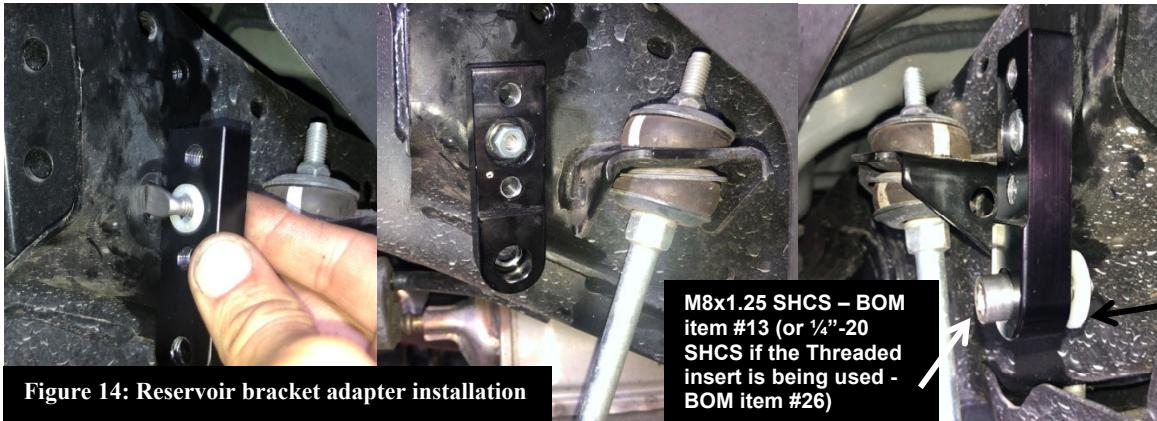

Figure 14: Reservoir bracket adapter installation
- R. Insert the Right Angle Stud into the hole as shown in Figure 14. With the Reservoir Bracket Adapter hanging upside down, slide the M8x1.25 SHCS through a Split Lock Washer (for M8x1.25 SHCS), and then into the remaining counter bored hole. Then slide the Nylon Washer over the exposed threads of the M8. Refer to Figure 14. If the threaded inserts were installed, discard the M8x1.25 SHCS (BOM item #13), Split Lock Washer (BOM item #14), and Nylon 8mm washer (BOM item #16). Instead use the SHCS 1/4"-20, L=3/4" (BOM item #26) and 1/4" Split Washer (BOM item #19), refer to steps H and I.